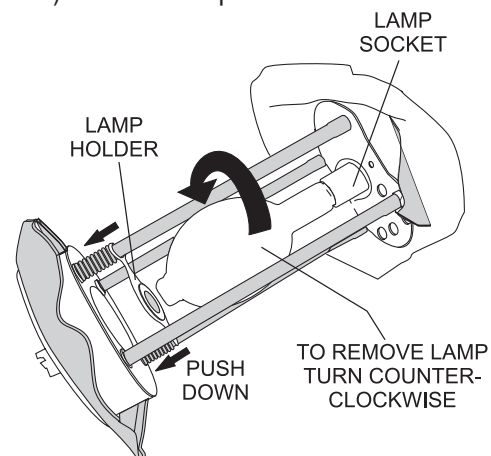

Figure 26. Removing the Lamp
3. Push down and hold the lamp holder (spring loaded) away from the lamp (Figure 26). Unscrew the lamp (turn counter-clockwise) from the lamp socket.